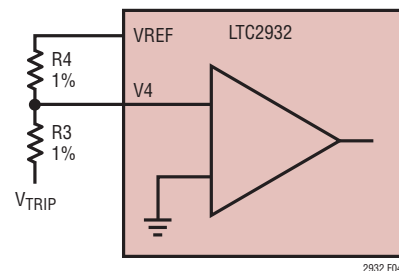

Figure 4. Setting the Negative Adjustable Trip Point
*See Figure 4.
In the negative adjustable mode, the reference level on the V4 comparator is connected to ground (Figure 4). The tap point on an external resistive divider, connected between the negative voltage being sensed and the VREF pin, is connected to the high impedance adjustable input (V4). VREF provides the necessary level shift required to operate at ground. The negative trip voltage is calculated from: